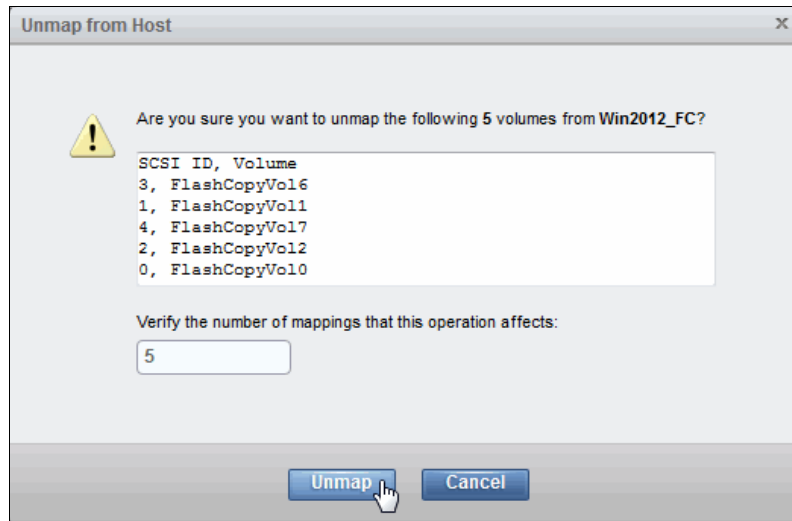

Figure 8-13 Enter the number of mappings to be removed
- A prompt is displayed requesting confirmation of the number of mappings to be removed. Enter the number of mappings to be removed and click **Unmap**. In the example, five mappings are removed, as shown in Figure 8-13.